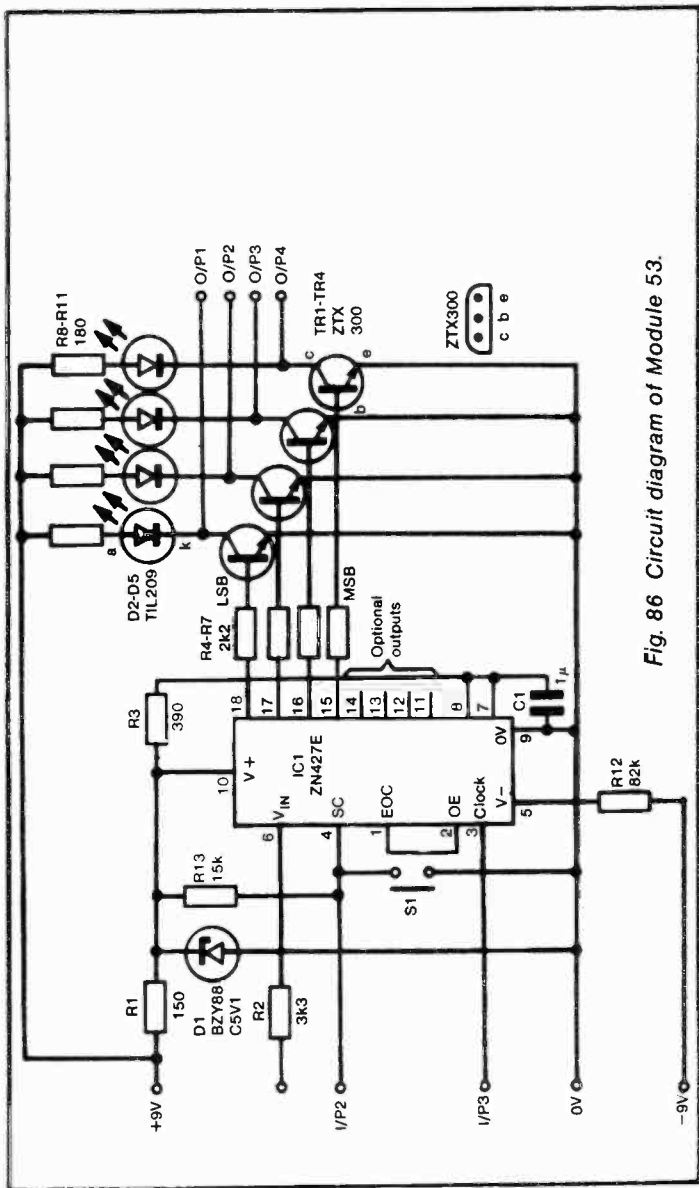

Fig. 86 Circuit diagram of Module 53.
*Circuit diagram:* see Figure 86.